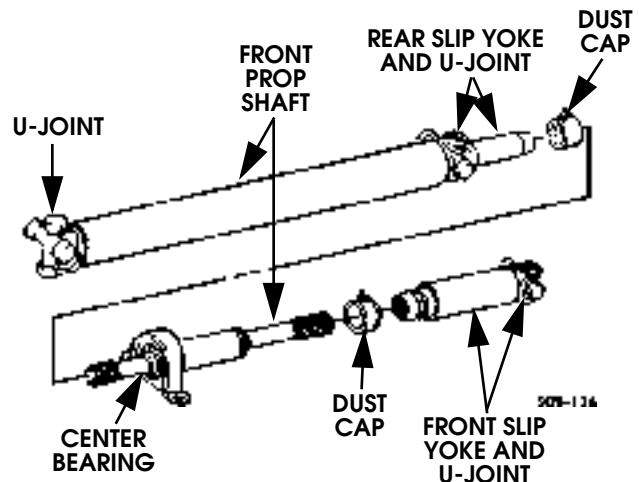

Figure 9-107: Front Propeller Shaft Assembly
2. Mount shaft in vise and remove dust caps (Figure 9-107).